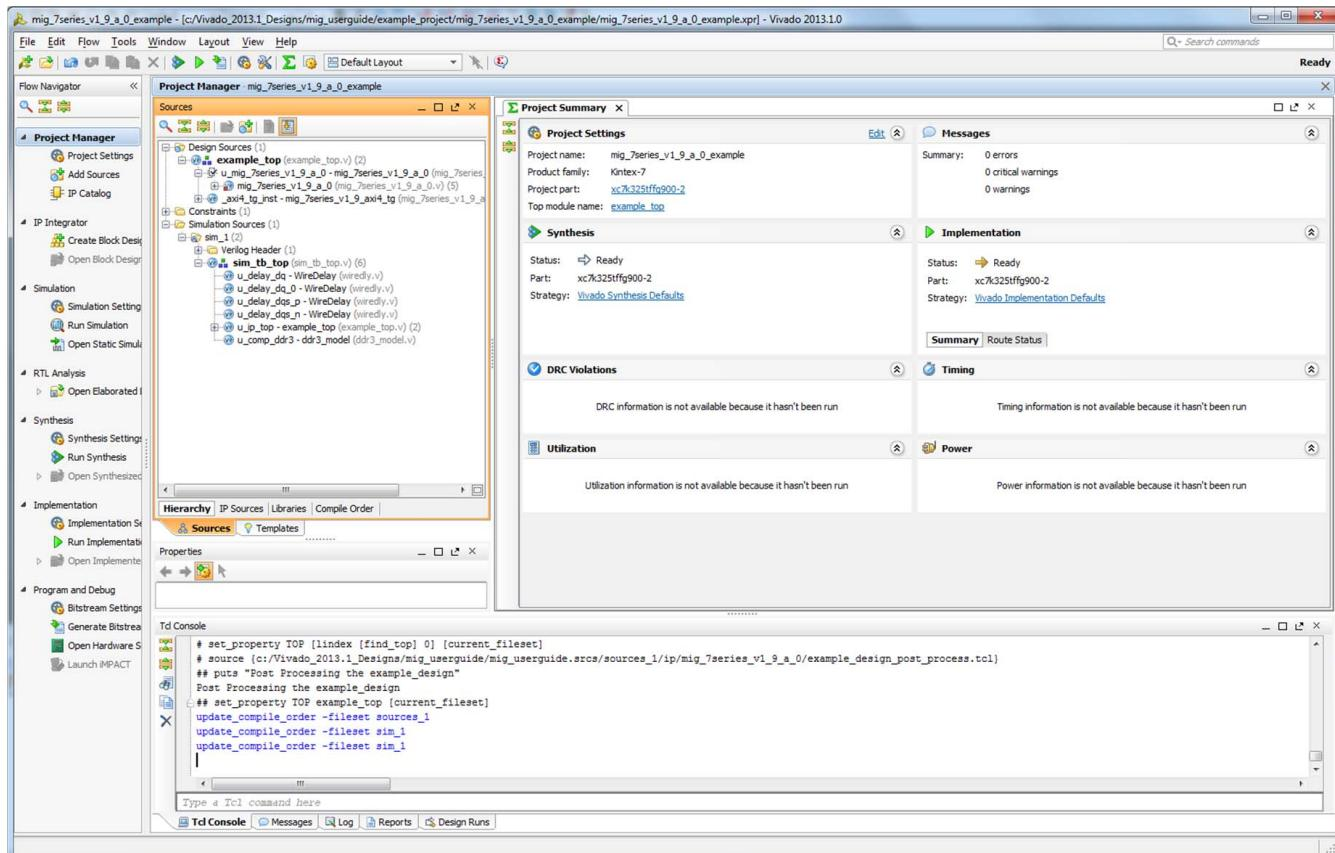

Figure 6-20: Example Design Project
20. This option creates a new Vivado project. Selecting the menu brings up a dialog box, which takes the directory for the new design project. Select a directory, or use the defaults, and click OK. This launches a new Vivado with all example design files and a copy of the IP. This project has `example_top` as the Implementation top directory, and `sim_tb_top` as the Simulation top directory, as shown in Figure 6-20.